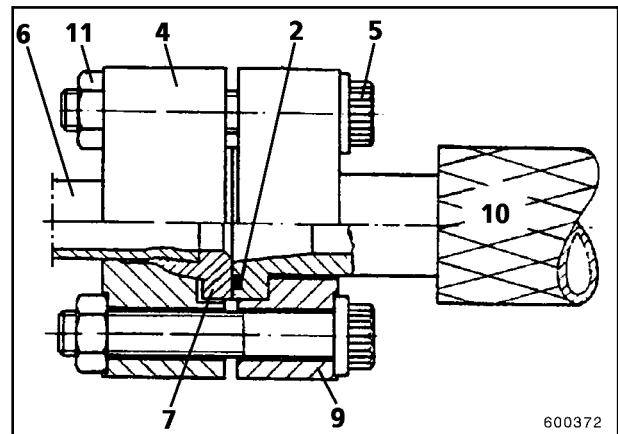

Fig. 2
2. Oil bolts (5, Fig. 2) and inner contour of flange (4).
3. Push F-ring (7) and flange (4) onto pipe.
4. Place seal ring (2) into groove. If necessary, fit a second seal ring (2) and centre disk (8).
5. Push hydraulic hose (10) up against pipe (6) with F-ring (7) and fit the two flange halves (9) into position.
6. Insert bolts (5), fit nuts (11) and tighten up bolts as far as possible by hand.